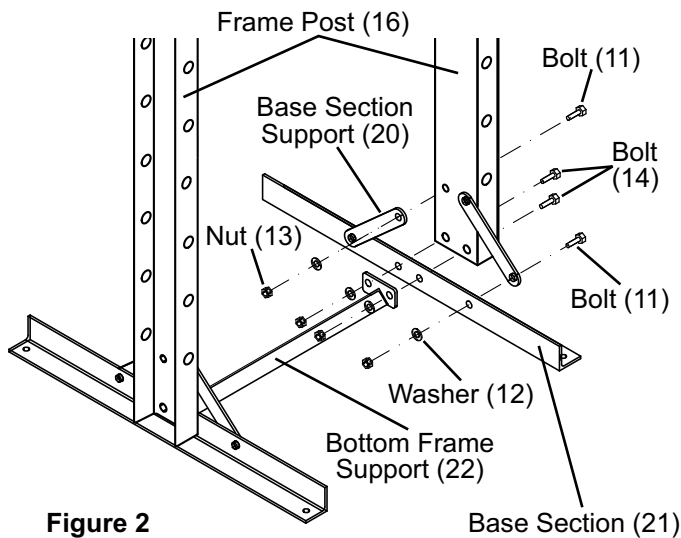

Figure 2
- Attach the Base Section Supports (20) to the Frame Posts and Base Sections using the Bolts (11), Washers (12), and Nuts (13). See Figure 2.
- Determine where the Shop Press will be located and bolt Base Sections (21) to the floor: